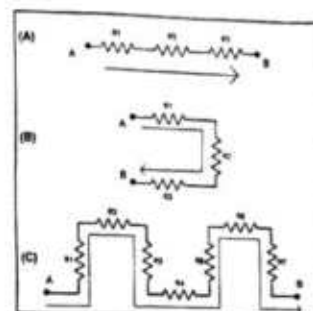

Fig. 6
When connected in series, resistors form a single path for the flow of electrical current. Figure 6 shows some examples of resistors connected in series.
In Figure 6(A) resistors R_1 , R_2 , and R_3 are connected in series forming a single path for the flow of electrical current from point A to point B.
In Figure 6(B) resistors R_1 , R_2 , R_3 , and R_4 are connected in series forming a single path for the flow of electrical current from point A to point B.
In Figure 6(C) resistors R_1 , R_2 , R_3 , R_4 , R_5 , R_6 , and R_7 are connected in series forming a single path for the flow of electrical current from point A to point B. When the resistors are connected in series, the total resistance is the arithmetic sum of the ohmic values of the resistors. For example, the total resistance between the points A and B in Figure 6(A) is $R_t = R_1 + R_2 + R_3$. Similarly, the total resistance between the points A and B in Figure 6(C) is $R_t = R_1 + R_2 + R_3 + R_4 + R_5 + R_6 + R_7$.